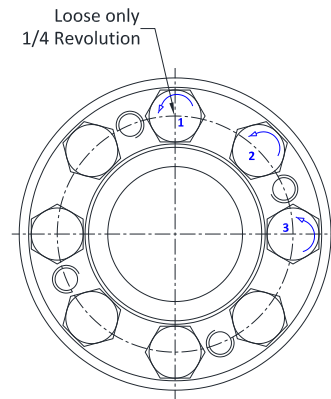

FIG.05
- Loosen the clamping screws uniformly in multiple steps by ¼ revolution for each step to prevent misalignment of the clamping surfaces and breaking of screws. (as shown in FIG.05)